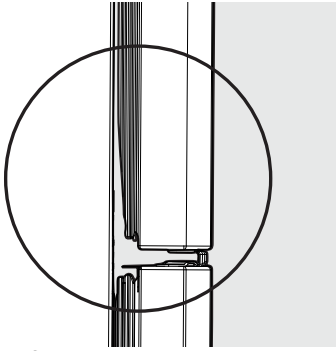

**Figure 8**
34. Remove the top hinge screw hole cover and reinstall on the opposite side of the cabinet (see Figure 8).